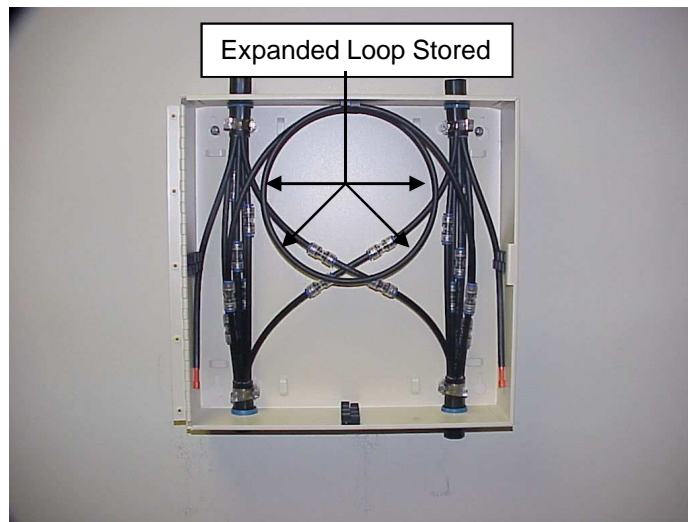

Figure 8a
9.7.2 **Key Step.** Coil and test fit jumper tubing until it can be satisfactorily and neatly stored inside the TDU. **See Fig. 8a.**